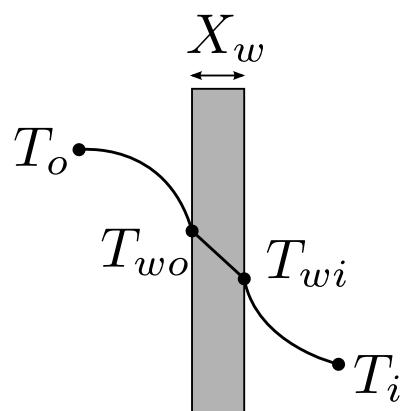

Figure 20: The temperature profile through the pipe wall.
- a) Chilled water flowing through brass tubes of  $0.0126 \text{ m}$  inside diameter and  $0.0018 \text{ m}$  thickness cools a stream of air flowing outside of the tube. The film coefficients for the air and water flows are  $176 \text{ W m}^{-2} \text{ K}^{-1}$  and  $5660 \text{ W m}^{-2} \text{ K}^{-1}$  respectively and thermal conductivity of the brass is  $102 \text{ W m}^{-1} \text{ K}^{-1}$  (see Fig. 20).